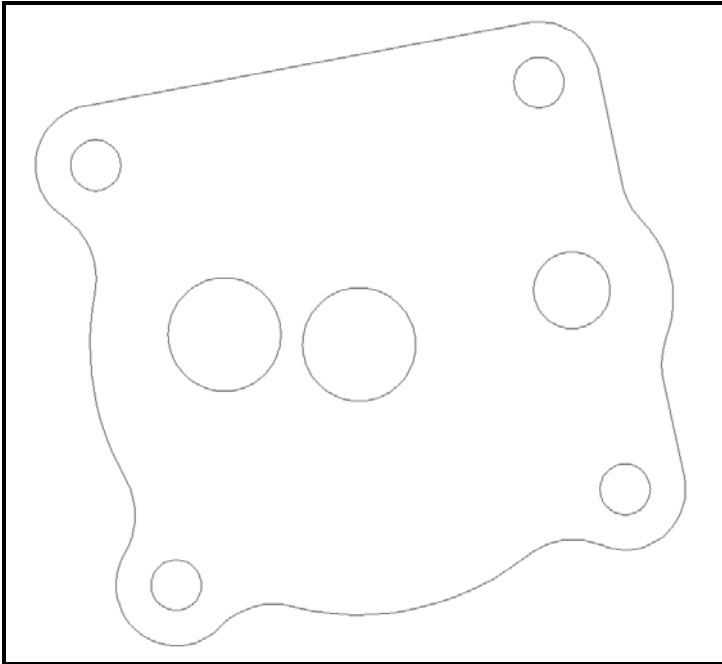
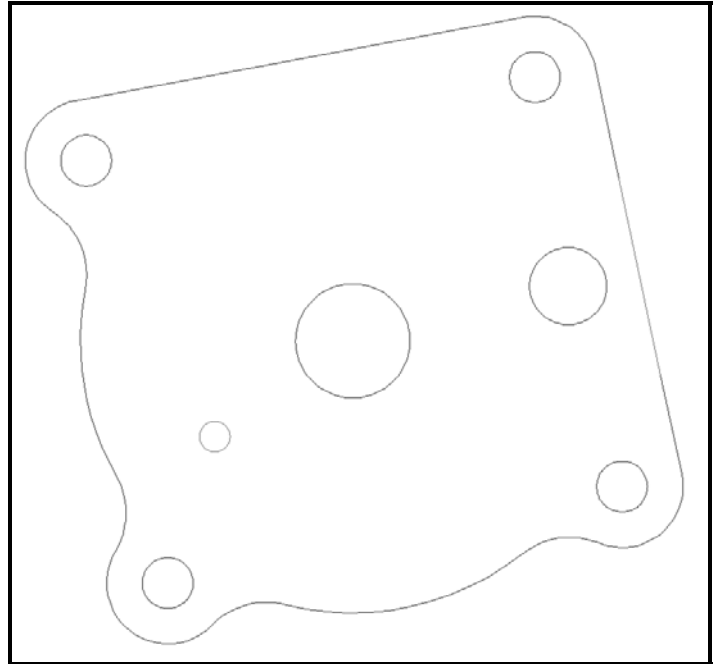
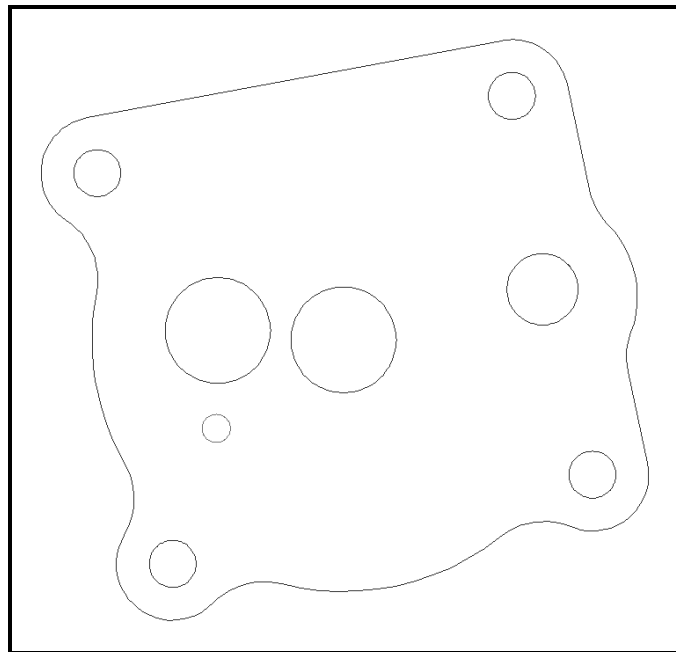

Figure 1
Figure 2
Figure 2a
5. The mounting pad on the accessory case for the **OFA** should be like the drawing in Figure 1, Figure 2, or Figure 2a. If the mounting pad is different, **DO NOT** use this adapter. Call B & C Specialty Products at (316) 283-8000. The B&C **OFA** is not compatible with 76 series engines or on accessory cases with "Dual Magneto" mounts (two magnetos in one case with a single drive).